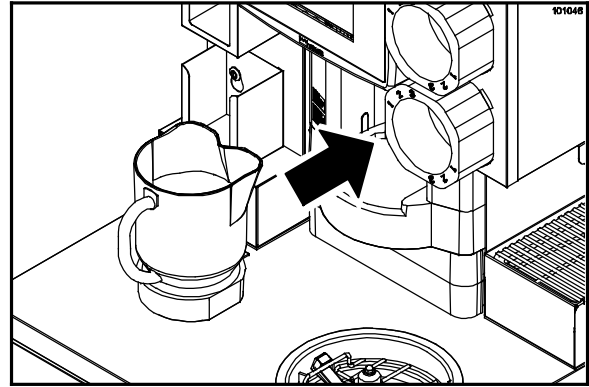

Figure 129
- Place a blender pitcher in the dispensing area. Press the ICE key until the pitcher is half full of shaved ice. Discard the ice into the back sink. (See Figure 129.)